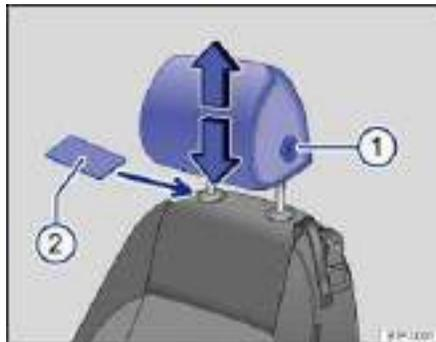

Fig. 47 Removing front head restraints.
- Slide a flat object, such as a plastic credit card, underneath the right side of the cap on the right-hand seat guide rod ⇒ fig. 47 \(2\) to unlock the head restraint.
- To release the left-hand guide rod, press button (1) in (towards guide rod) and hold.
- Pull the head restraint out completely while holding button (1).